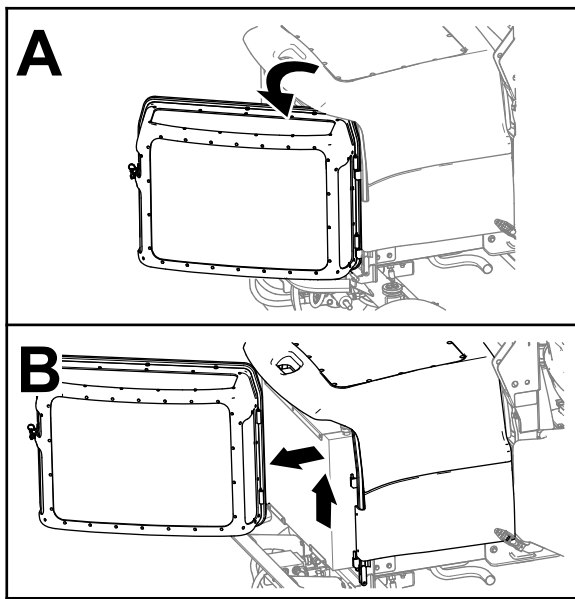

Figure 63
- Unlatch the engine screen, open it, and lift it from the machine (Figure 63).